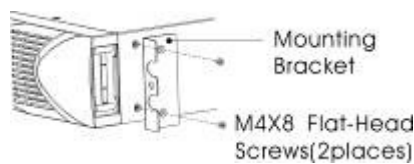

Figure 3 Installing the Mounting Brackets
- i) Align the mounting brackets with the screw holes on each side of the UPS and fix with the supplied M4×8 flat-head screws (see Figure 3)